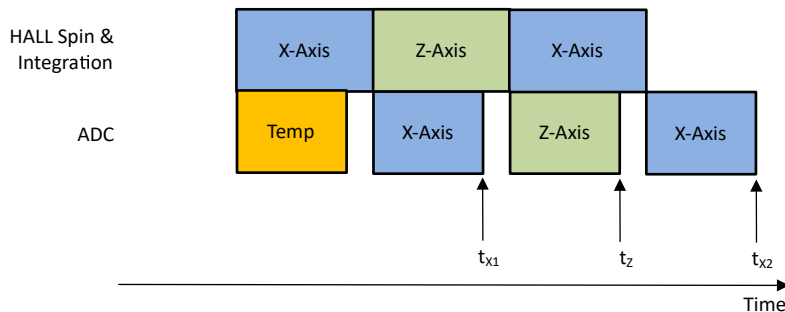

Figure 8-3. XZX Magnetic Field Conversion
In absolute angle measurement, application sensor data from multiple axes are required to calculate an accurate angle. The magnetic field data collected at different times through the same signal chain introduces error in angle calculation. The TMAG3001 offers pseudo-simultaneous sampling data collection modes to eliminate this error. Figure 8-3 shows an example where `MAG_CH_EN` is set at Bh to collect XZX data. Equation 12 shows that the time stamps for the X and Z sensor data are the same.
- t_{X1} , t_z , t_{X2} are time stamps for X, Z, X sensor data completion as defined in Figure 8-3.